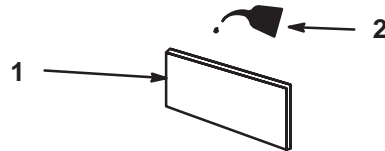

Figure 34
3. Soak element in new engine oil. (Fig. 34). Squeeze the element to remove excess oil.